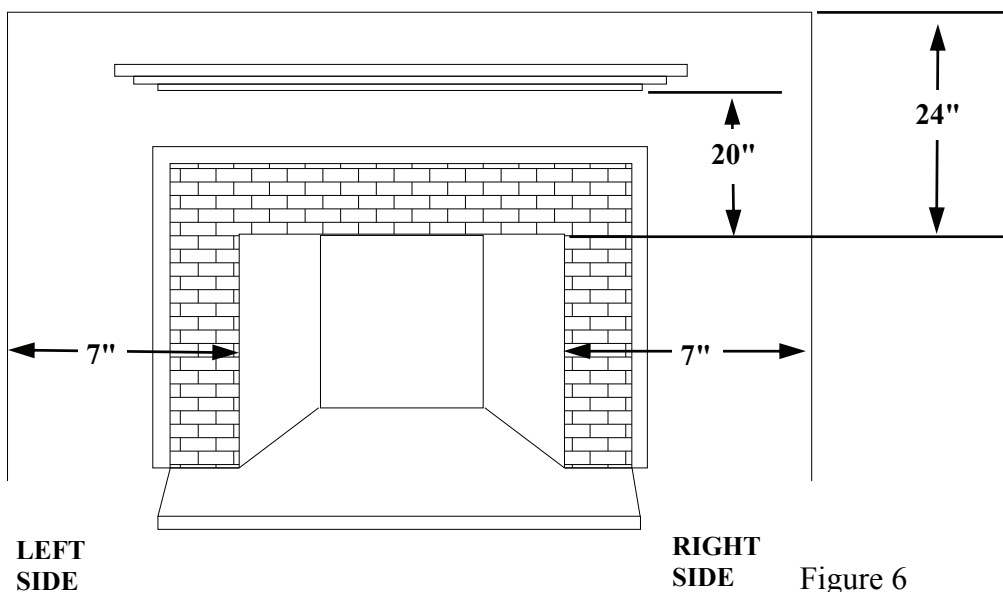

Figure 6
- (1) The Model FP-34 may be installed in a masonry fireplace. The **minimum fireplace dimension** must be 24" high, 29-1/2" wide, and 12" deep.
- (2) For minimum dimensions for the sidewall and mantel, see Figure 6.
- (3) Center the heater in fireplace opening.
- (4) **NOTE:** See "Producing Adequate Ventilation" page 35.
NOTE: See page 26, figure 6 for clearances.